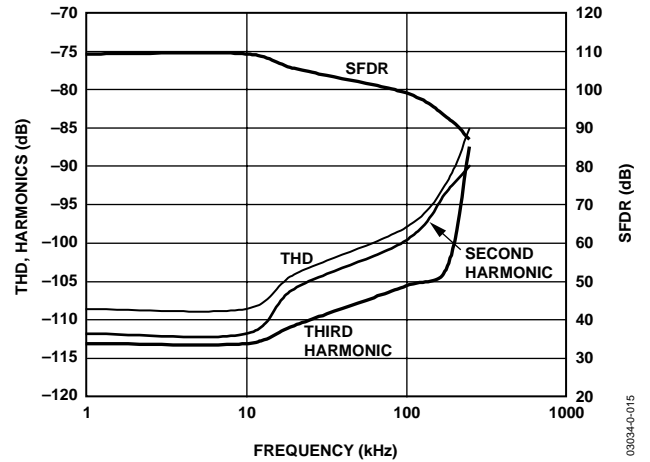

Figure 15. THD, Harmonics, and SFDR vs. Frequency
- The driver needs to have a THD performance suitable to that of the AD7666. Figure 15 gives the THD versus frequency that the driver should exceed.